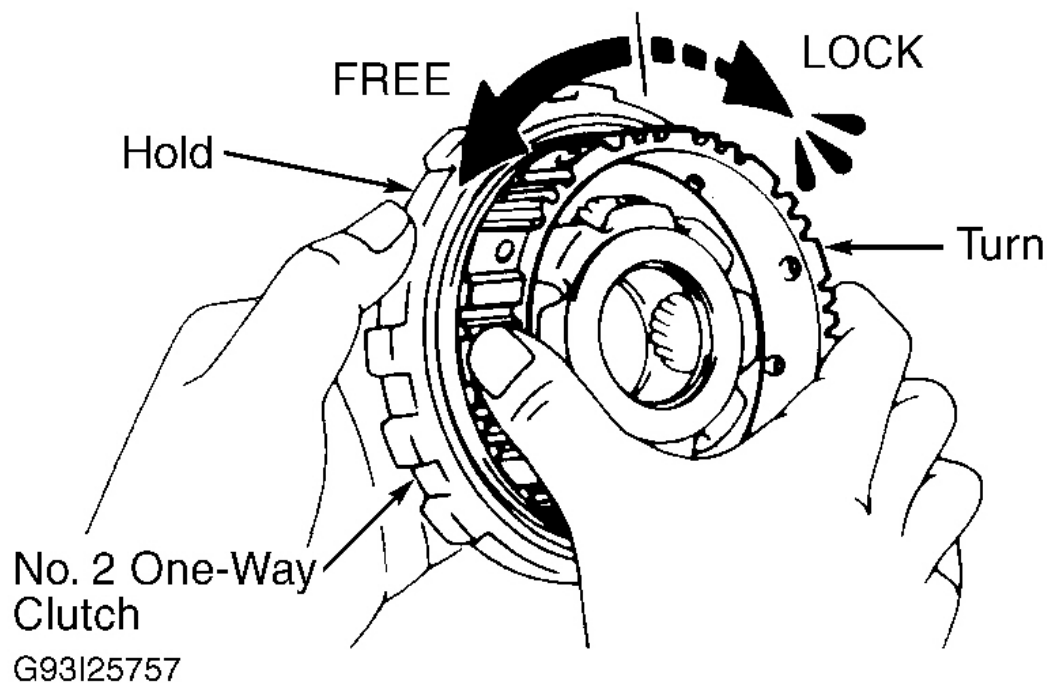

Fig. 27: Checking No. 2 One-Way Clutch Operation
1. Check operation of No. 2 one-way clutch. Hold outer race and turn rear planetary gear. Gear should turn freely counterclockwise and should lock when turned clockwise. See **Fig. 27** . Separate No. 2 one-way clutch and rear planetary gear.